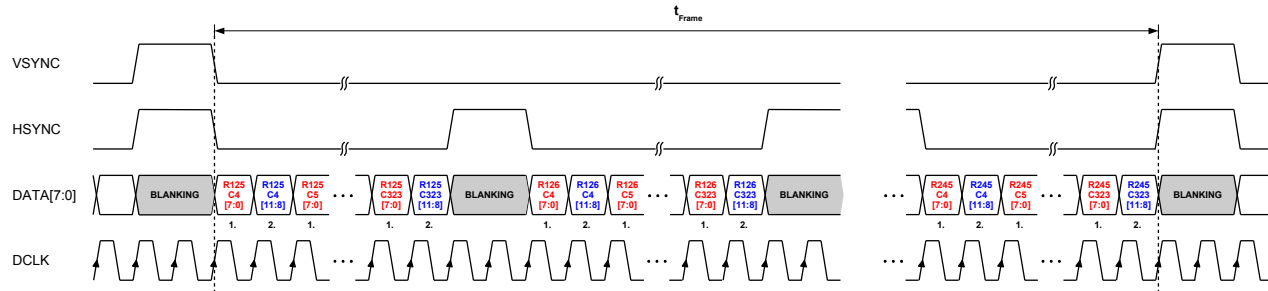

Figure 30: **lsb/msb** split mode
- lsb/msb split mode: Transfers 12 bit pixel data with LSByte leading and MSByte trailing with 2x DCLK. Refer to Table 14 and Figure 30.